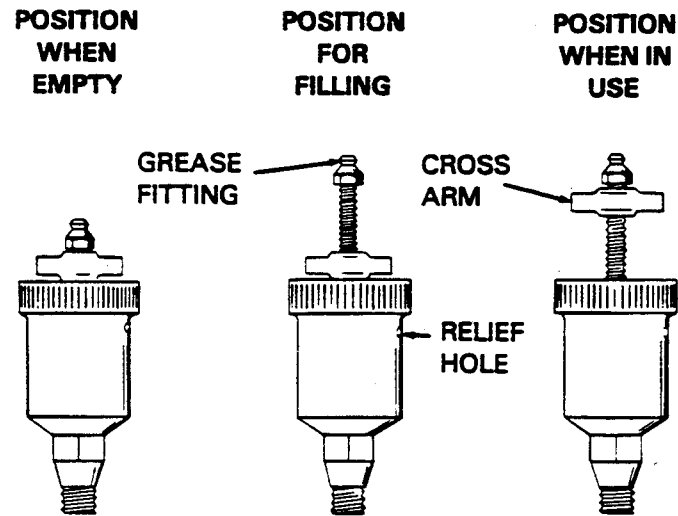

Figure 4. Automatic Lubricating Grease Cup
Before removing the seal assembly, turn the cross arm on the seal grease cup (7) clockwise until it rests against the cover (see figure 4). This will prevent the grease in the cup from escaping after the seal is removed.
Before starting the pump, fill the grease cup through the grease fitting with a good grade of No.2 pressure gun grease until grease escapes from the relief hole. Turn the grease cup arm counterclockwise until it is at the top of the stem; this will release the spring to apply grease to the seal (see figure 4).